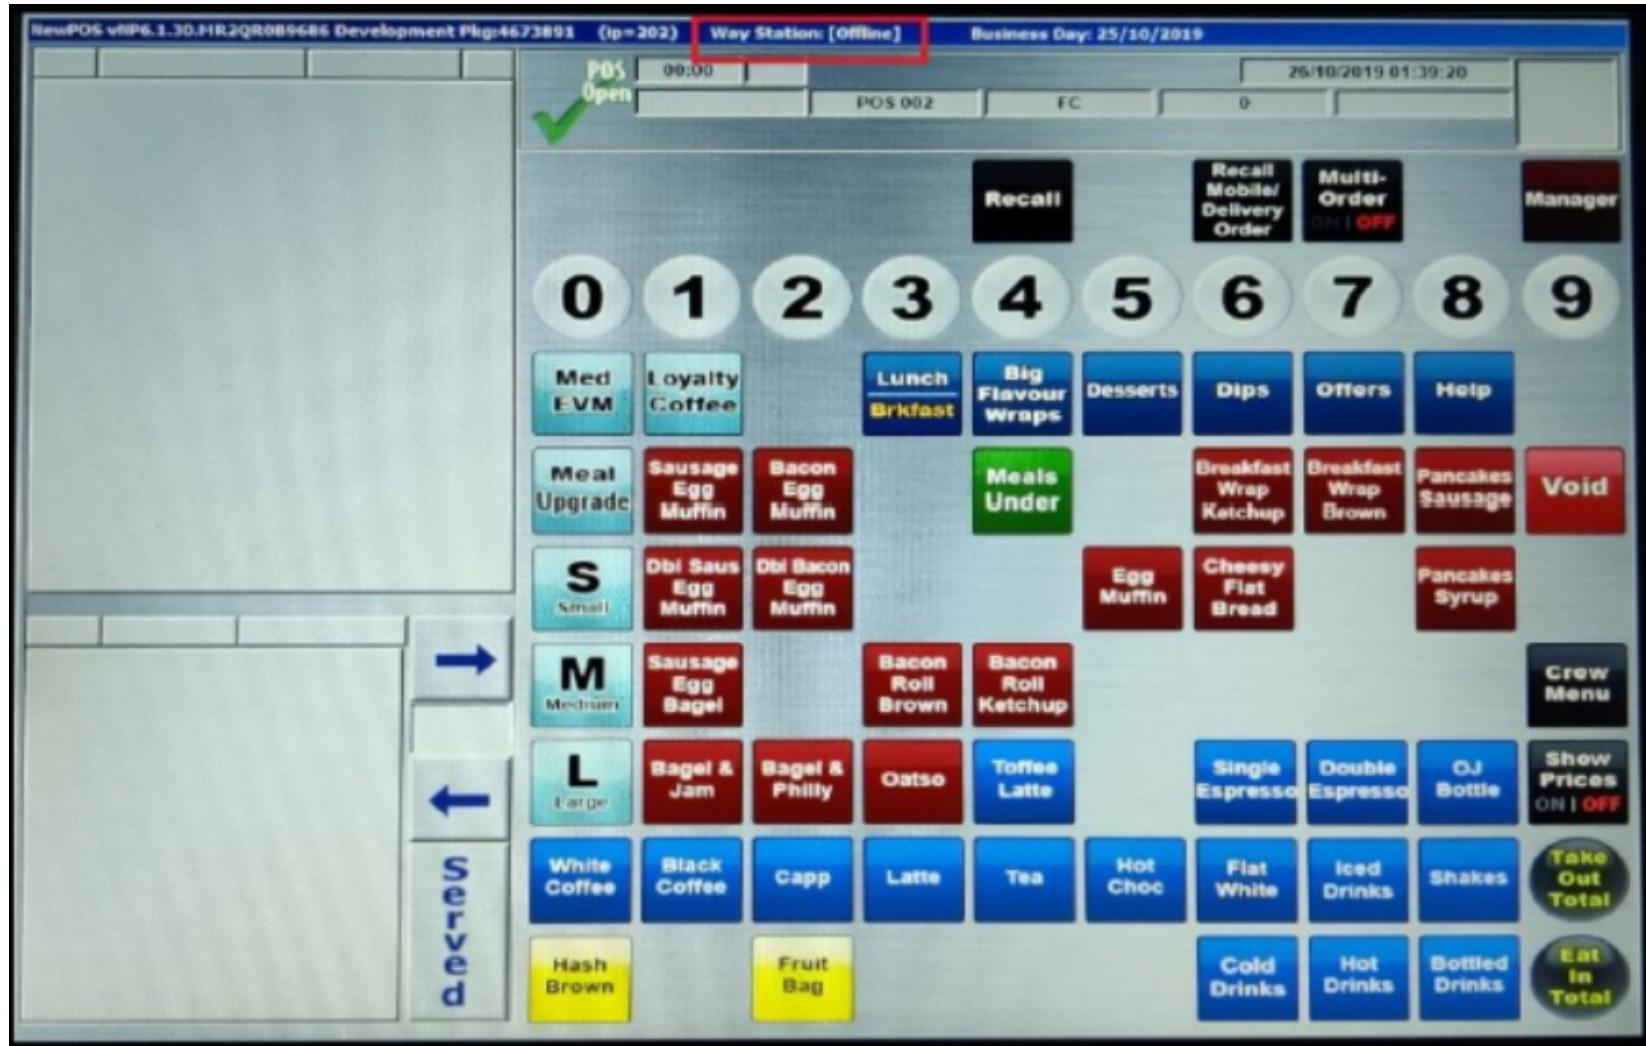

Figure 10: POS-till "Way Station [Offline]"
- Check if the POS-till (see figure 10 on the next pages) normal menu screen shows “Way Station: [Offline]. If it does, there is a connectivity issue, try re-seating the LAN cable (see figure 11-13 on the next pages):